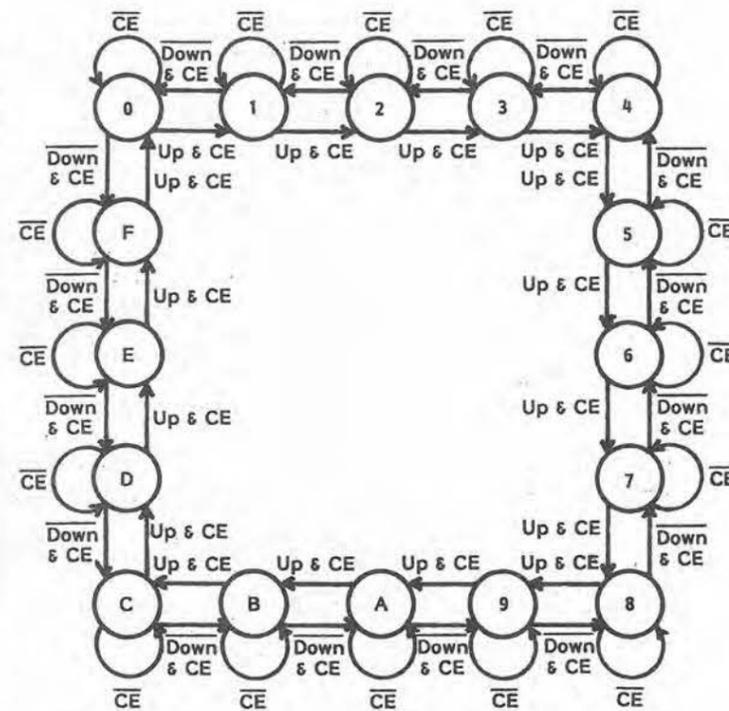

Fig. 9. Four-bit counter state diagram.
Operation of the counter may be described by a state diagram. Each combination of output levels corresponds to a binary number from 00002 (010) to 11112 (1510), and represents a distinct state of the counter. Figure 9 shows the counter state diagram. Each state is represented by a circle containing the output levels in that state. The arrows are labelled with the logic inputs which enable the jumps between states. A recursive arrow means that there is no jump and gives the hold